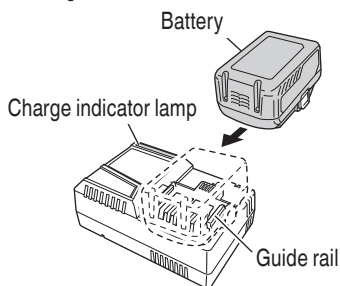

Fig. 11
2. Insert the battery to the battery charger. Firmly Insert the battery into the battery charger as shown in Fig. 11.